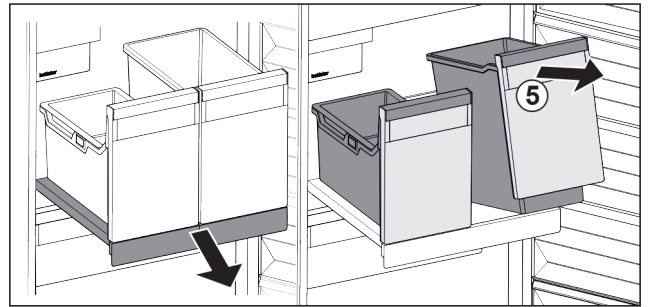

Fig. 33
- ▶ Lift the container Fig. 33 (5) at the front.